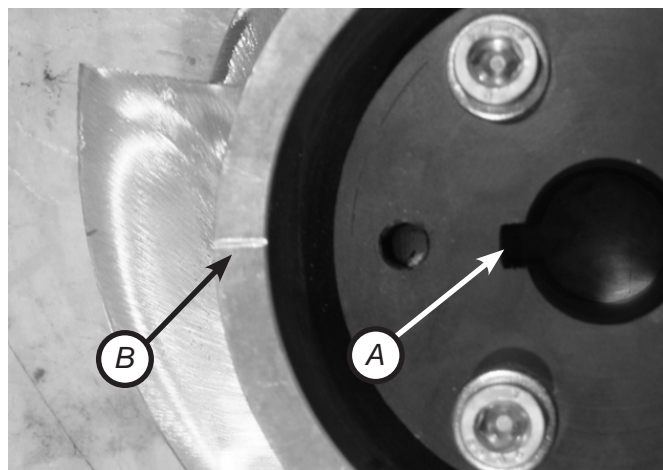

Figure 3.3-2
The place for the wedge groove (A) on the mounting cone is marked on the impeller with a line. Set the cone so that the wedge groove is aligned with the line (B) as in figure 3.3-2.